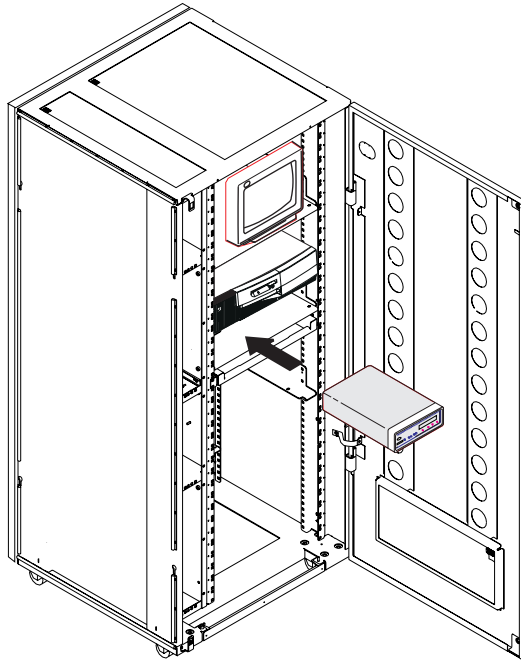

Figure 1-28. Installing the 7857 in the Controller Expansion
3. ____ Slide the 7857 in the controller expansion as shown in Figure 1-28.